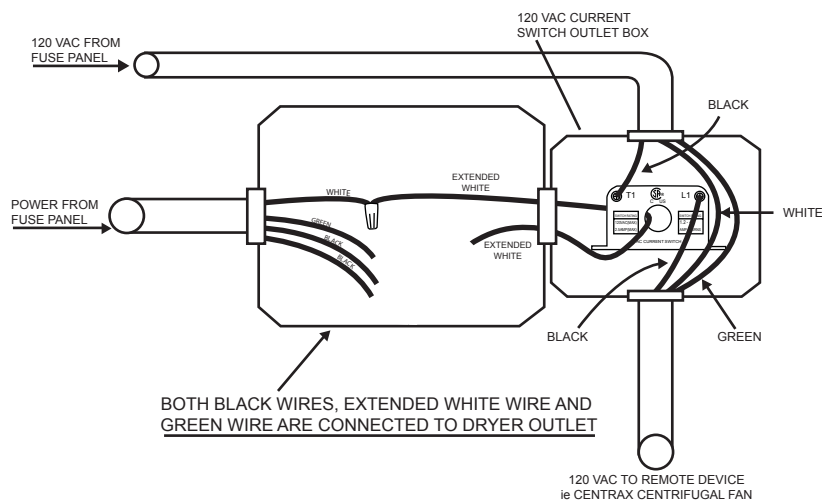
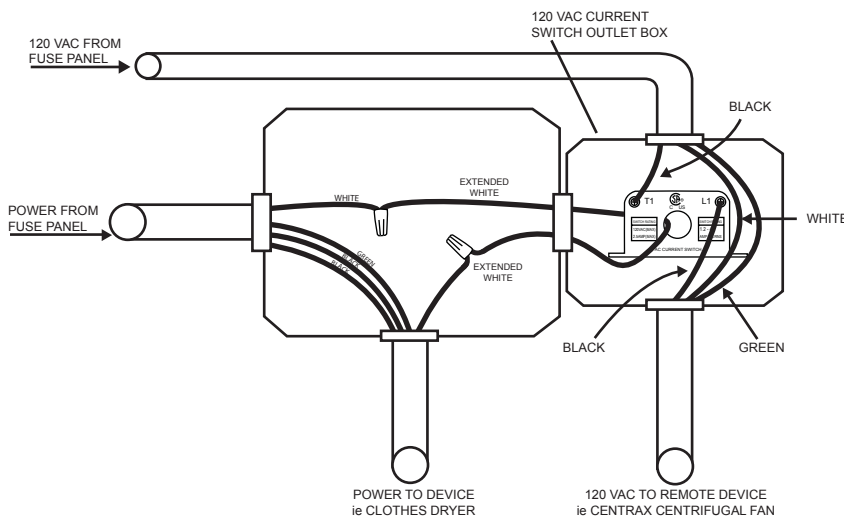

Fig. 3
Fig. 4
**Refer to Figures 3 and 4, for required wiring
Refer to the appropriate diagram for dryers that have a plug-in (Figure 3) or are hardwired into an electrical box. (Figure 4)
- Disconnect the White common (neutral) conductor from the dryer outlet (Figure 3) or disconnect the White wire in hardwired installations (Figure 4) and extend this conductor with a length of wire that is identical to the gauge and temperature rating of the White conductor.
- This extended White wire will be run into the Current Switch 4" x 4" box and through the hole in the Current Switch and then return to the terminal on the dryer outlet (Figure 3) or the White wire going to the clothes dryer. (Figure 4).